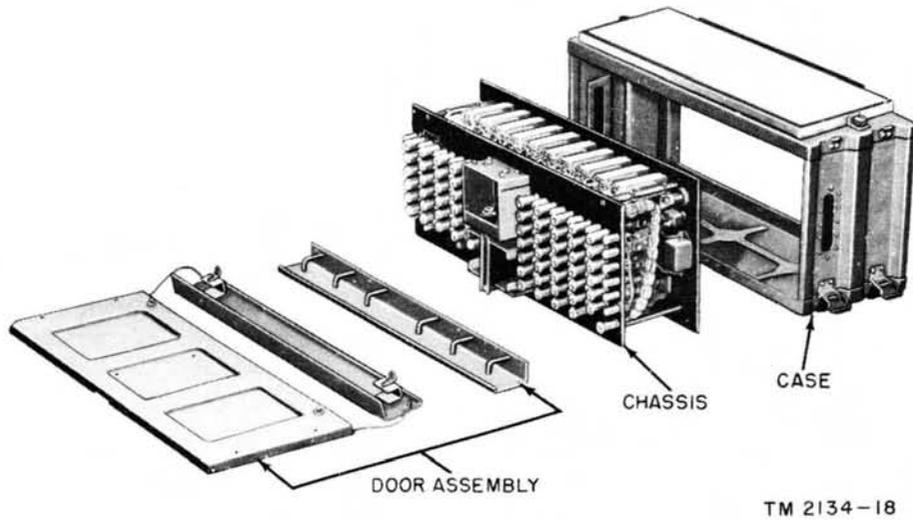

Figure 25. Switchboard Signal Assembly TA-207/P, partially dismantled.
a. *Inspecting.* Make a visual inspection to determine the general condition of the equipment when it is received for repairs (fig. 25 through 37). Remove the jack field section chassis, cord packs, and operator's pack from respective cases. Remove
### 74. Switchboard Signal Assembly TA-207/P (fig. 25 through 28)